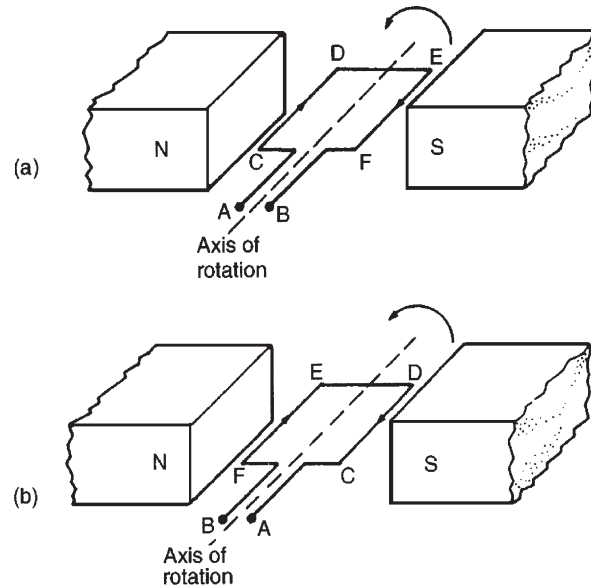

Figure 22.1
In an electric motor, conductors rotate in a uniform magnetic field. A single-loop conductor mounted between permanent magnets is shown in Fig. 22.1. A voltage is applied at points A and B in Fig. 22.1(a).
A force,  $F$ , acts on the loop due to the interaction of the magnetic field of the permanent magnets and the magnetic field created by the current flowing in the loop. This force is proportional to the flux density,  $B$ , the current flowing,  $I$ , and the effective length of the conductor,  $l$ , i.e.  $F = BIl$ . The force is made up of two parts, one acting vertically downwards due to the current flowing from C to D and the other acting vertically upwards due to the current flowing from E to F (from Fleming's left-hand rule). If the loop is free to rotate, then when it has rotated through  $180^\circ$ , the conductors are as shown in Fig. 22.1(b). For rotation to continue in the same direction, it is necessary for the current flow to be as shown in Fig. 22.1(b), i.e. from D to C and from F to E. This apparent reversal in the direction of current flow is achieved by a process called **commutation**.
- (iii) **field windings**, i.e. many turns of a conductor wound round the pole core; current passing through this conductor creates an electromagnet (rather than the permanent magnets shown in Figs 22.1 and 22.2),